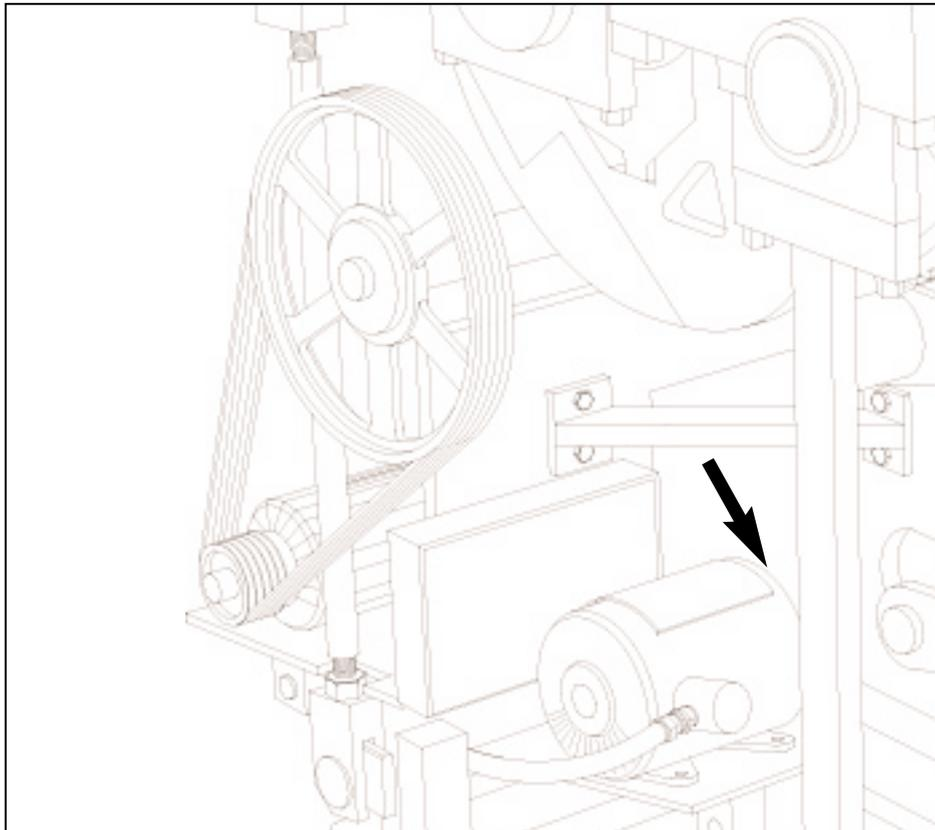

Figure 19.16 MOTOR SHEAVE.
19.2.8 For 60 Hz. power install sheave (#) on drive motor. For 50 Hz. power install sheave (#) on drive motor. Figure 19.16 below shows the location of the sheave.